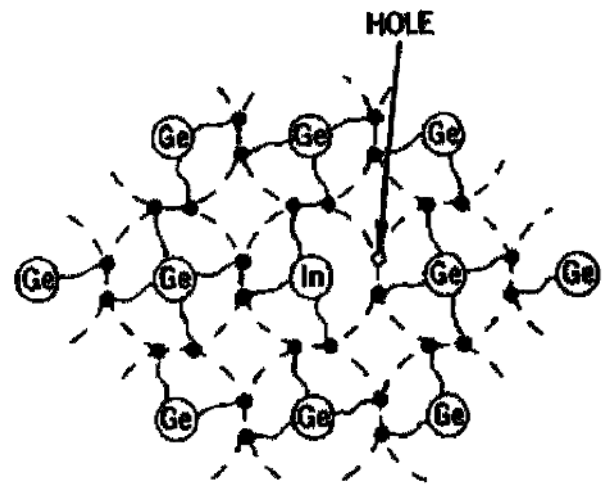

Figure 107. P-type germanium.
9. P-type (positive type) germanium can be prepared by combining germanium and indium atoms. Figure 107 shows germanium and indium in covalent bonding. For every indium atom in the material, there will be a shortage of one electron that is needed to complete covalent bonding between the two elements. This shortage of an electron can be defined as a hole. This type of material will readily accept an electron to complete